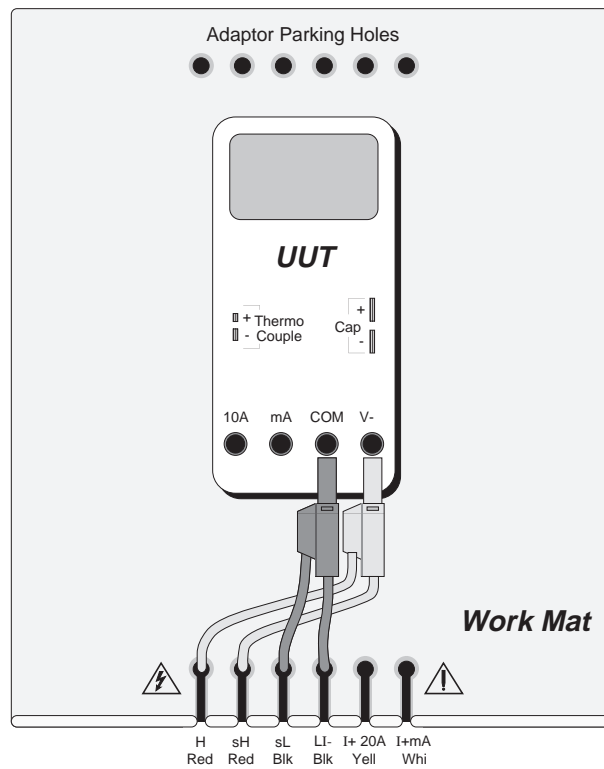

Fig. 17.1 Connections for Logic Levels Calibration
1. Connections Connect the 9100 to the UUT as shown in Fig. 17.1 , and ensure that both instruments are powered ON and warmed up.
Connect the 9100 to the UUT as shown in Fig. 17.1, and ensure that both instruments are powered ON and warmed up.